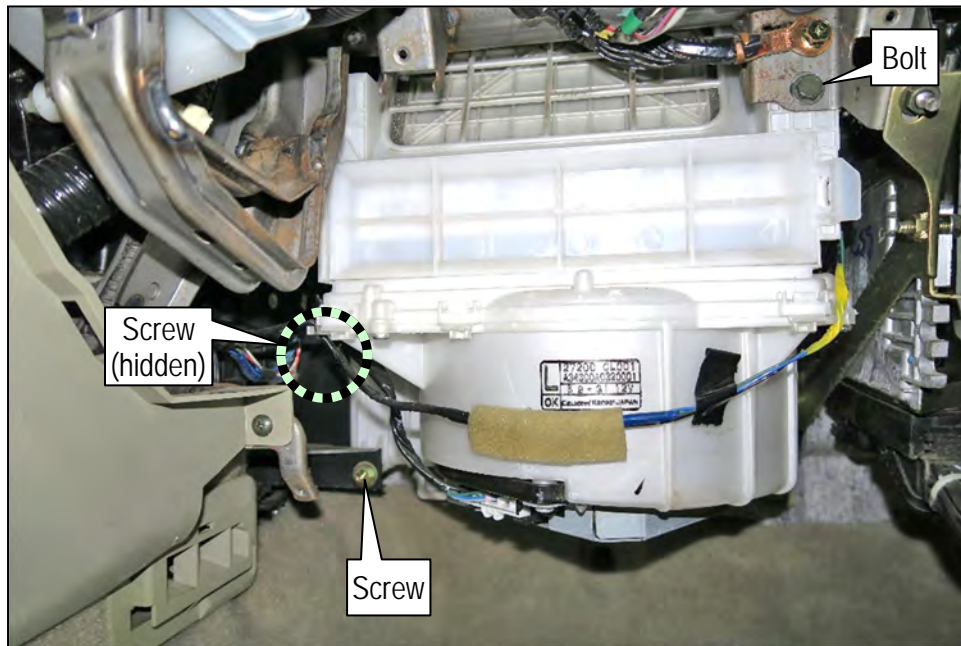

Figure 10
14. Remove the two (2) screws and one (1) bolt (Figure 10).
HINT: One of the two screws is hidden (Figure 10).